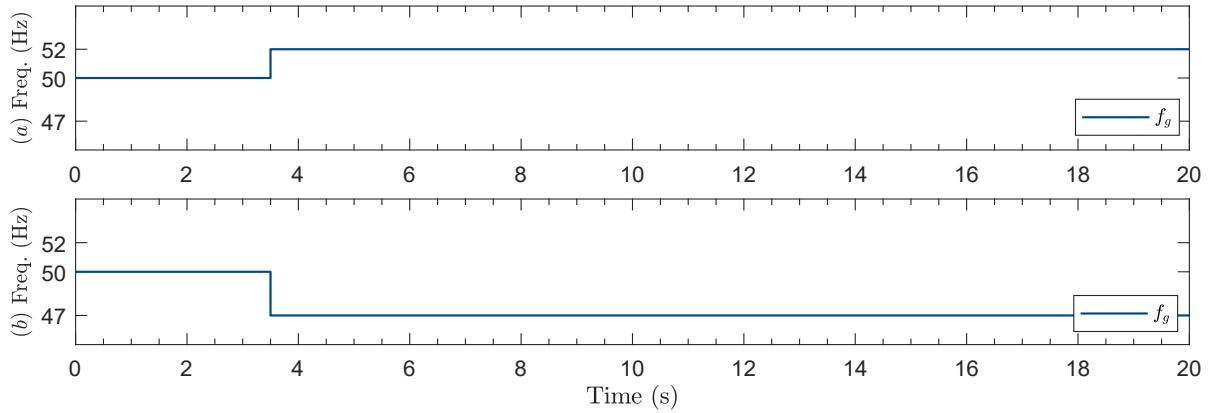

Fig. 10: Step changes of +2 Hz and -3 Hz in the frequency of the grid voltage.
- (e) **Test 6:** $\Delta f_g = +2$ Hz (from 50 Hz to 52 Hz). -See Fig. 10 (a).
- (f) **Test 7:** $\Delta f_g = -3$ Hz (from 50 Hz to 47 Hz). -See Fig. 10 (b).